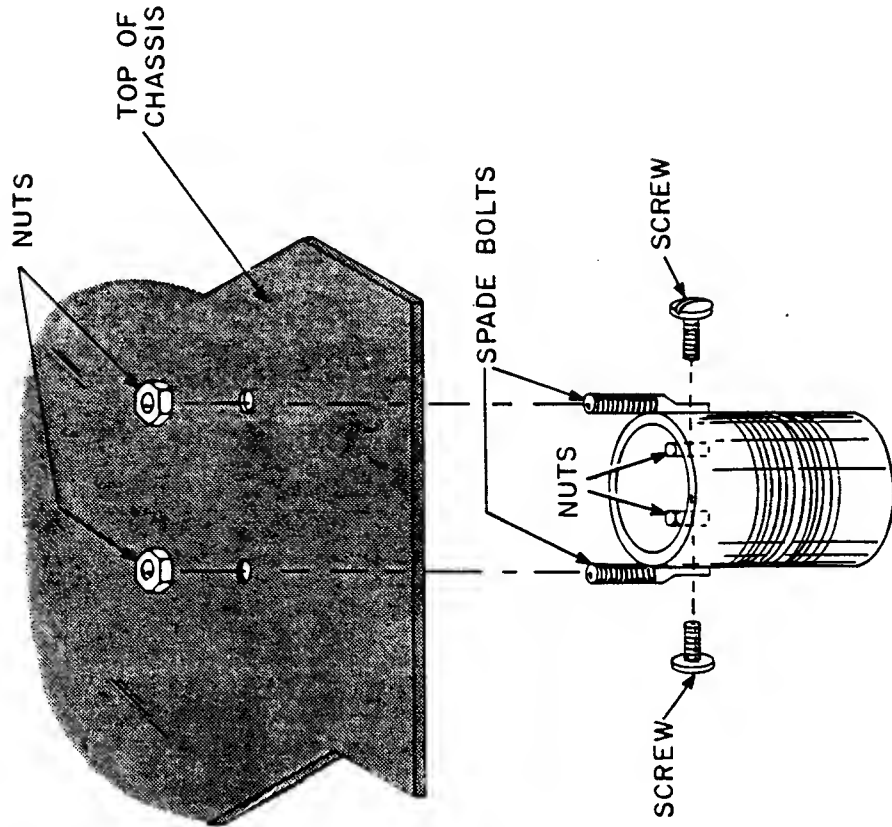

FIGURE 12. HOW TO MOUNT L-1
- () Mount a spade bolt on each side of L-1, the oscillator tank coil wound on the large form. The nuts must be inside L-1 as shown in Figure 12.